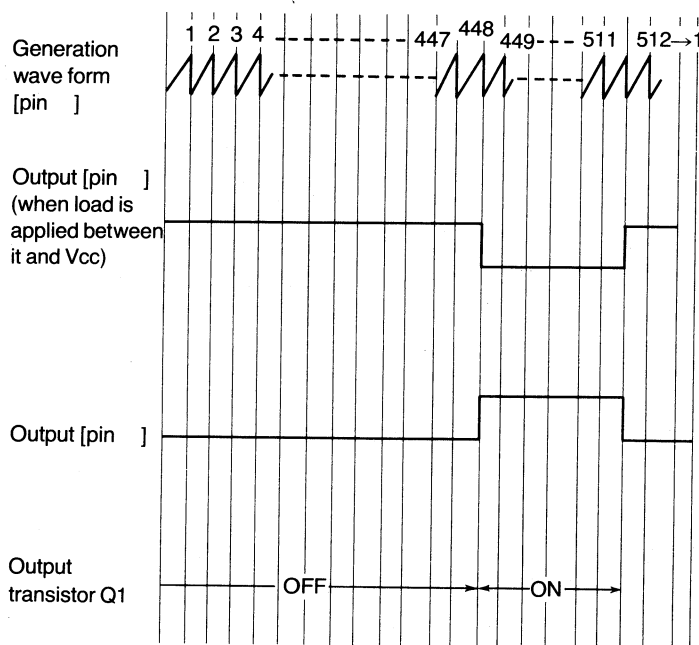

Fig. 37 Output waveform of each pin of AN6249
Pin ① of AN6249 is always set at H (high) level. When a pulse is not applied to pin ②, the flip-flop starts operation and at the 448th oscillation, generates one pulse. See Fig. 37. This starts reverse operation of the mechanism, by switching output transistor Q1 ON.